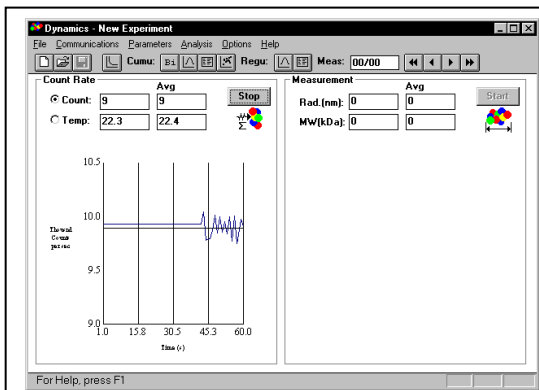

Figure 1: Measuring count rate. This needs to be done prior to starting the DLS experiment.
**Starting the instrument:** Turn on the DLS first, then open Dyna-Pro and wait for the software to load. The software will show an interface with two sides, the left measures the count number and the right side shows calculated data (Figure 1).